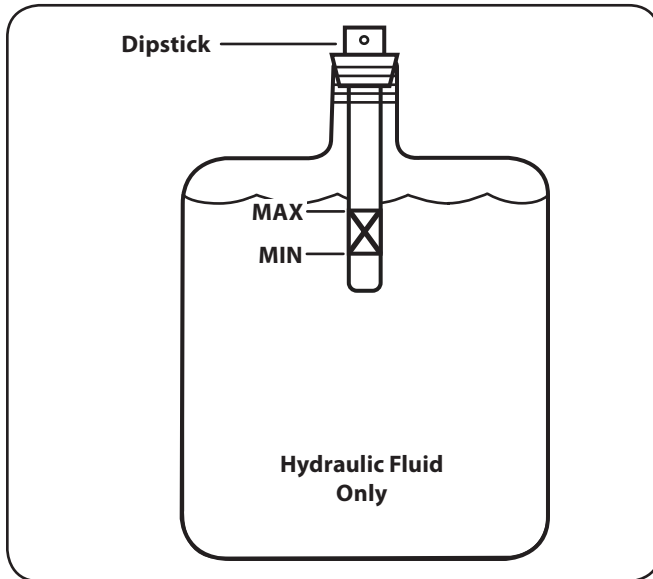

Figure 6-2
11. Refill the reservoir within range marked on the dipstick. See Figure 6-2.